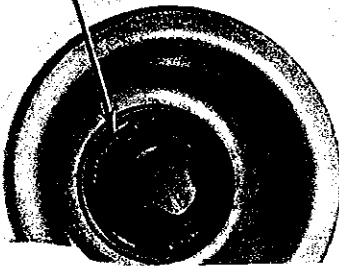

Figure 9. Part number on seal must face out.
- B. Install new propeller shaft seal in gear housing using a proper size seal driver. Install seal with open side against bushings (part number facing out) (Figure 9).